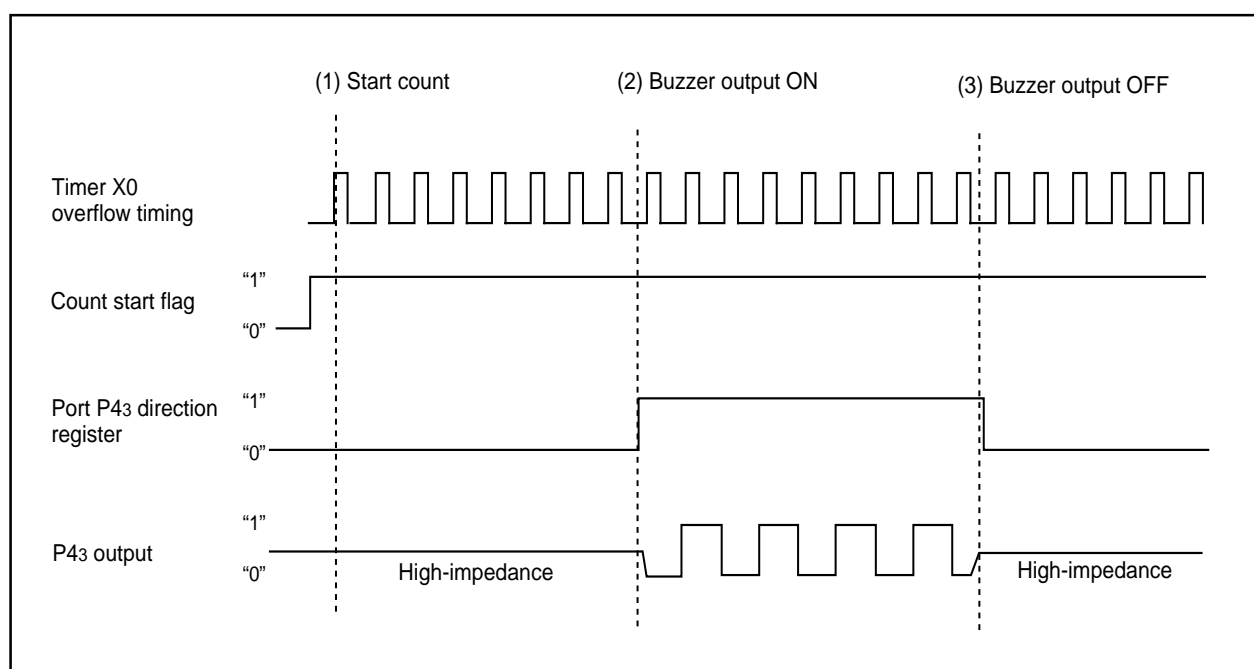
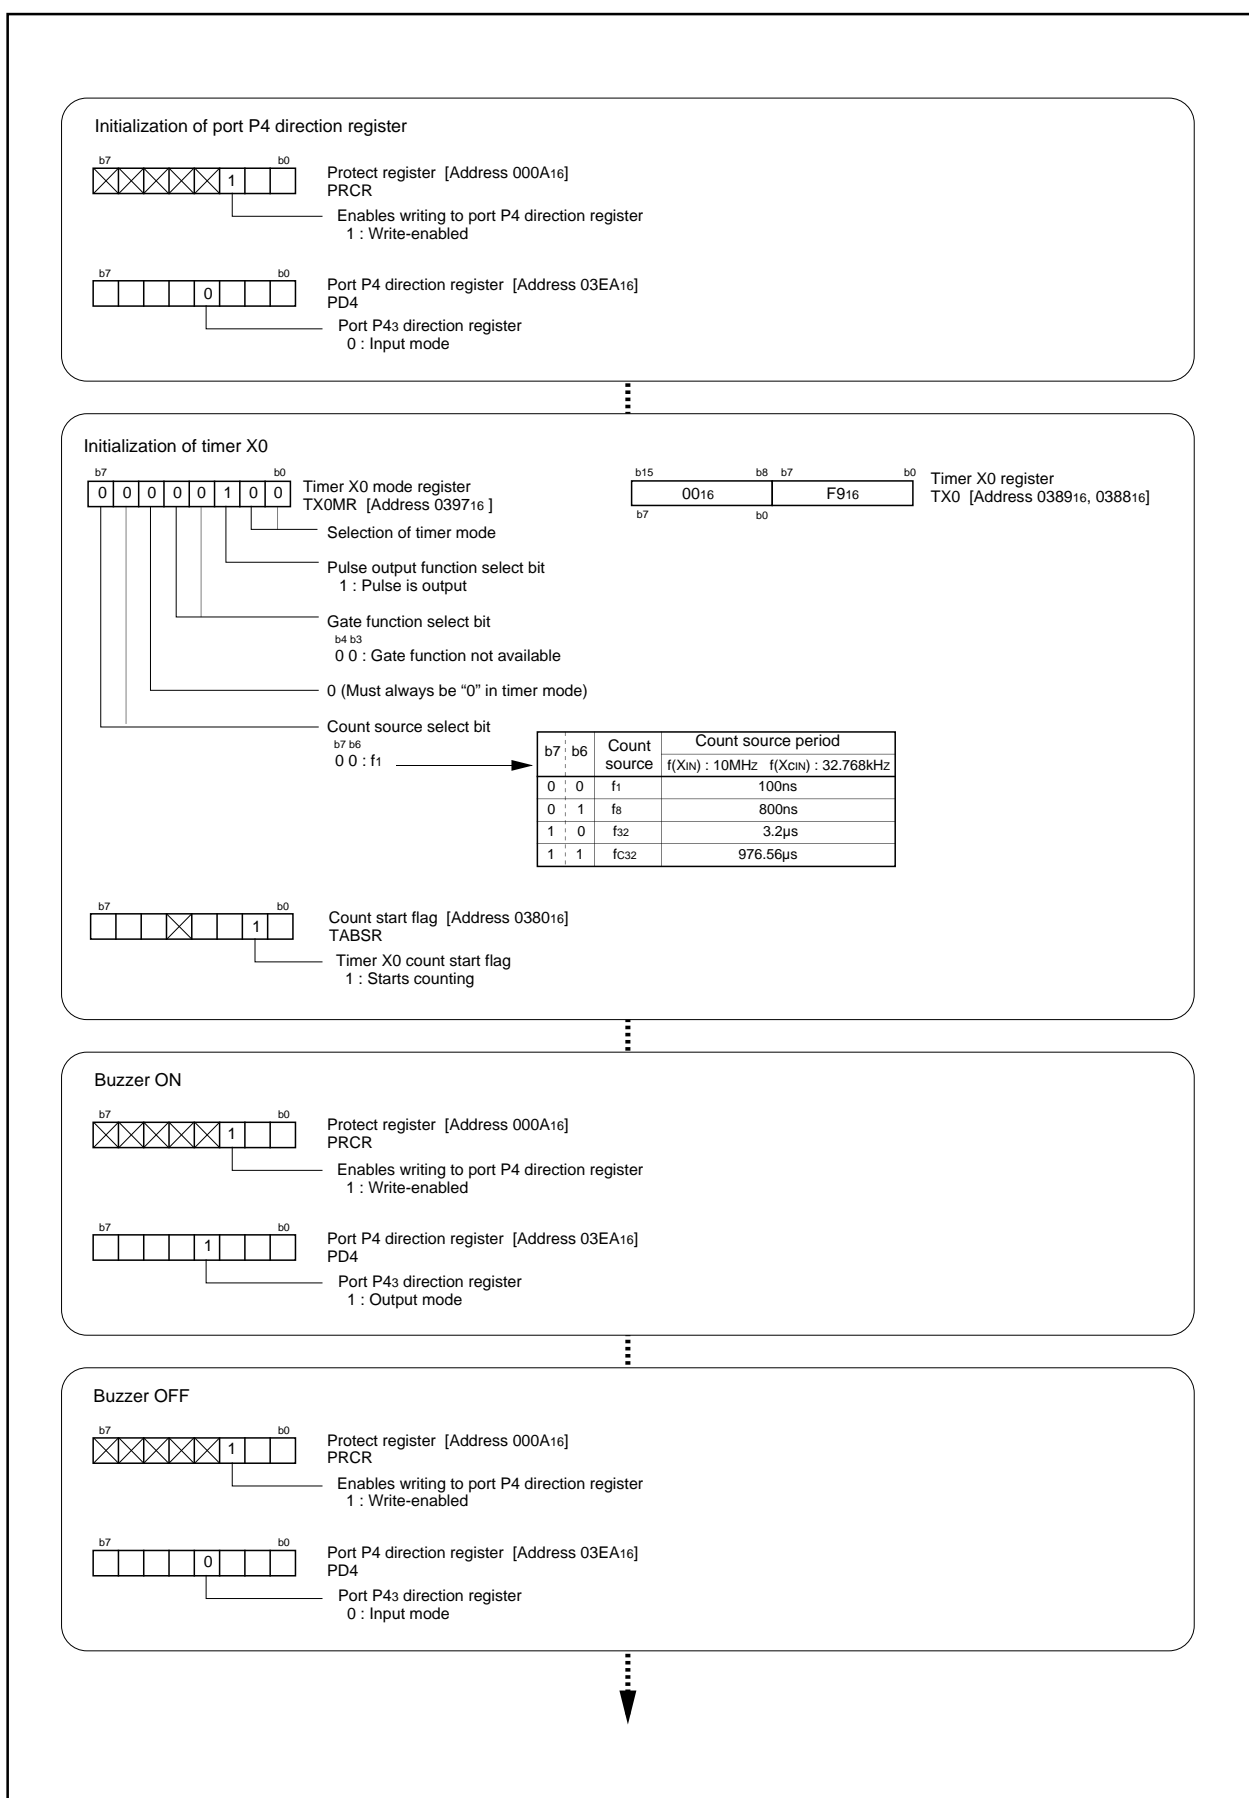

Figure 3.4.1. Operation timing of buzzer output
Figure 3.4.2. Set-up procedure of buzzer output
**Overview** The timer mode is used to make the buzzer ring. Figure 3.4.1 shows the operation timing, and Figure 3.4.2 shows the set-up procedure.